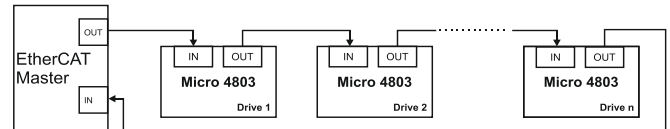

Figure 3-67 EtherCAT network ring topology
- Ring, when the OUT port of the last drive in the chain is connected back to the master controller, on the 2nd port of the master. This topology consists of the linear topology described above, plus an extra connection between the master, which has two RJ45 ports, to OUT of the last drive. See *Figure 3-67* for a visual representation of the ring topology.